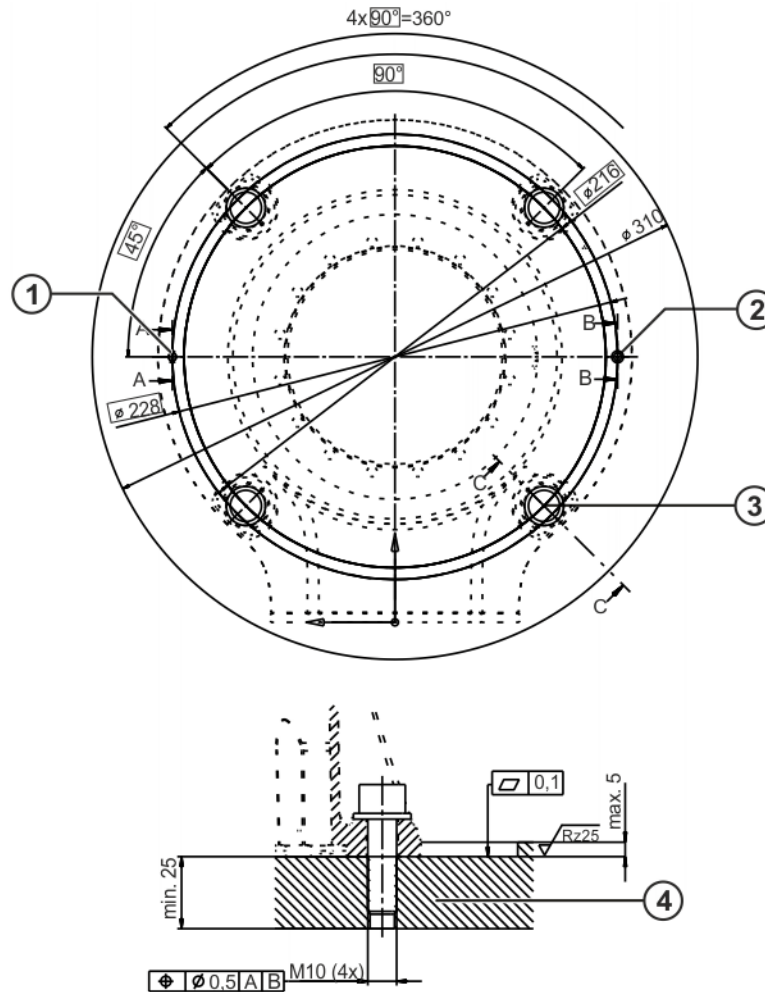

**Fig. 6-1: Machine frame mounting, dimensioned drawing LBR iiwa 7 R800**
- The mounting surface is prepared as shown in (>>> Fig. 6-1 )/ (>>> Fig. 6-2 ).